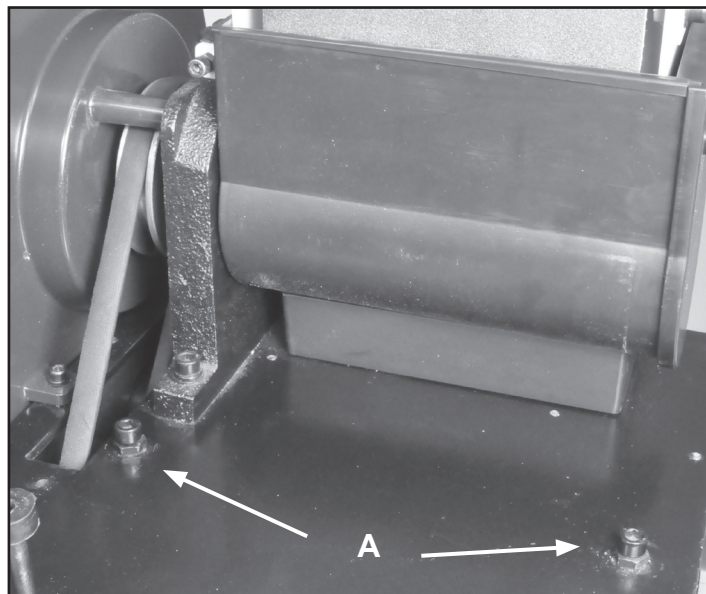

FIG. 16
2. On the cabinet top, under the sanding belt frame, there are two hex head Bolts and Nuts (#18, 19) that extend up from the cabinet surface. These connect to the motor frame and will adjust the tension of the V-Belt by pivoting the motor. FIG. 16, A.
7. On the cabinet top, under the sanding belt frame, there are two hex head Bolts and Nuts (#18, 19) that extend up from the cabinet surface. These connect to the motor frame and will adjust the tension of the V-Belt by pivoting the motor. FIG. 16, A , page 13.